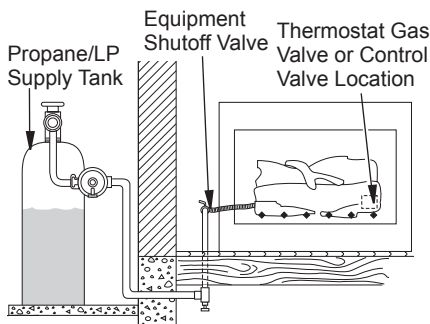

Figure 19 - Checking Gas Joints (Propane/LP only)
3. Check all joints from gas meter to equipment shutoff valve for natural gas or propane/LP supply to equipment shutoff valve for propane/LP (see Figure 19). Apply noncorrosive leak detection fluid to all joints. Bubbles forming show a leak.
4. Check all joints from equipment shutoff valve to control valve (Manually-Controlled Models), or to gas control (Remote-Ready Models) (see Figures 19 and 20). Apply noncorrosive leak detection fluid to all joints. Bubbles forming show a leak.